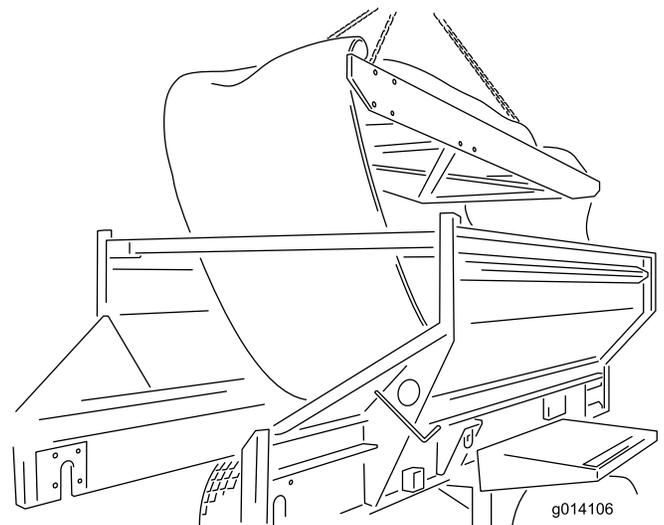

Figure 49
24. Remove the cartridge by lifting it out from the top of the machine. Place it on the ground (Figure 49).